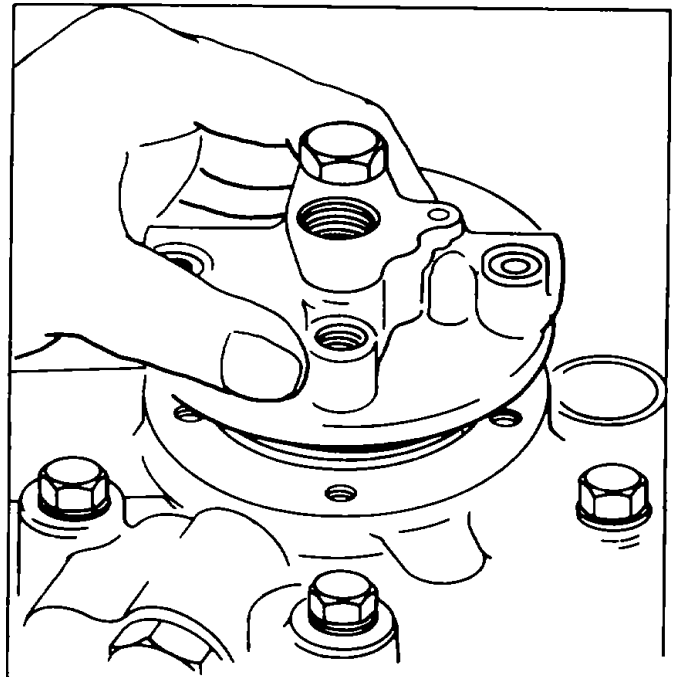

Figure 227.
C-2 Insert relief valve body in motor cover and secure with hex bolts (48 & 50) and lock washers (47) Torque to 132 in lbs See Fig 227.